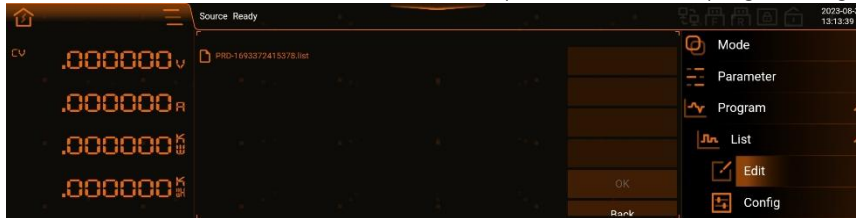

Figure 168 Waveform File Selection Interface
- 3) Return to the List programming interface, click 'Import', and in the Figure 168 select the file just saved (with the suffix. list), click 'Confirm', and the saved waveform data will be imported into the List programming interface.